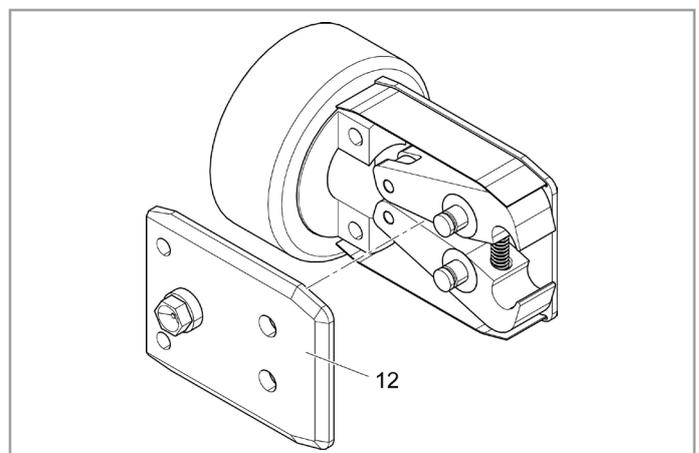
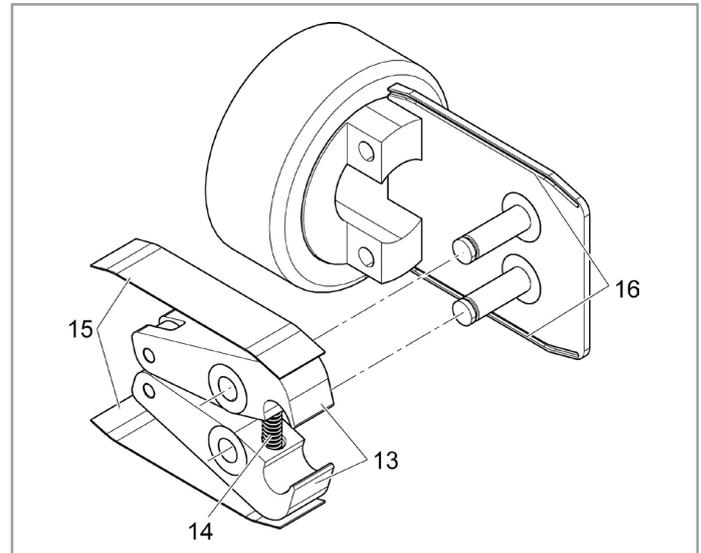

Fig. 78 *Removing the pincer plate*
Fig. 79 *Removing the pincer jaws*
7. Remove the pincer plate (Fig. 78/12).
8. Remove the compression spring (Fig. 79/14), cover plates (Fig. 79/15) and pincer jaws (Fig. 79/13).
9. Grease the replacement pincer jaws (Fig. 79/13) and compression spring (Fig. 79/14) from the pincer jaw replacement kit with RENOLIT LX-EP 2 grease (RENOLIT Duraplex EP 2) and install.
10. Mount the pincer plate (Fig. 78/12). Guide the cover plates on each side (Fig. 79/15) into the grooves (Fig. 79/16) in the pincer plate.
11. Check that the pincer jaws (Fig. 79/13) are moving freely.